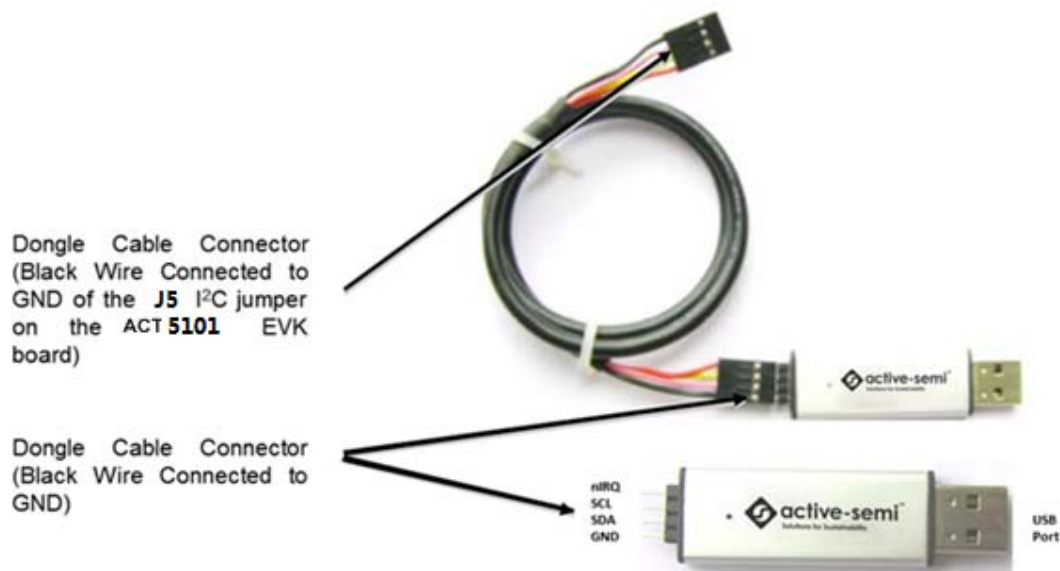

Figure 3 – USB-TO-I2C Dongle Connection
3. Connect the USB-TO-I2C dongle to the EVK J5 connector. Refer to Figure 3 to ensure the correct polarity of the connection. As a guide, use the “Active-Semi” logo on the top of the dongle so the black wire is connected to the Dongle GND pin.